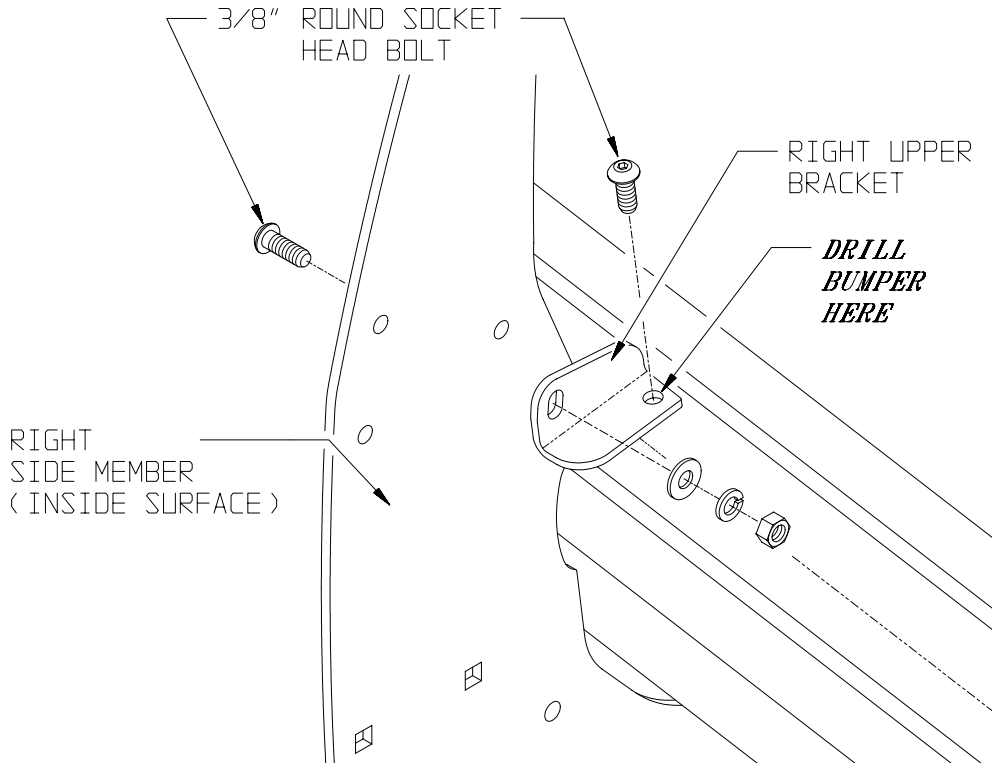

Figure 5
10. Attach the upper brackets to the inside of the side members **as shown in Figure 5**. Adjust the brackets to lie flat against the vehicle bumper. Use the hole in the brackets to mark bumper. Remove brackets and drill a 3/8" hole through the bumper at each mark.